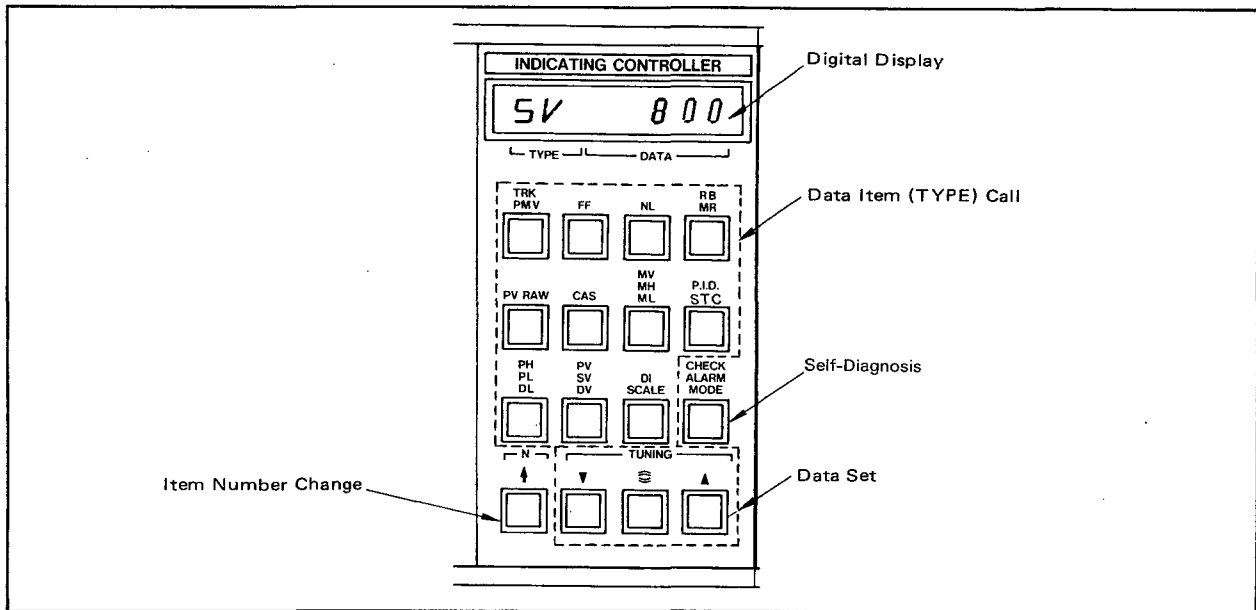

Figure 5-5. Keyboard.
■ Operation of Keyboard (See Figure 5-5).
When the desired data item key is pressed, the corresponding key (TYPE) and data can be displayed (see Figure 5-5). Several data items are assigned to each key and data items are changed in turn whenever the key is pressed.
- 1) Call data items with eleven keys (see Figure 5-5).
(6) Initial (Default) Values.